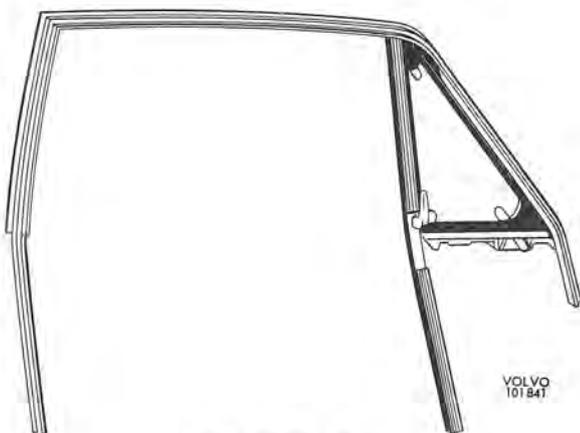

Fig. 8-16. Door frame
3. After the rubber strip round the ventilation window has been removed from the groove all round, the window with strip can be taken off, see Fig. 8-16.